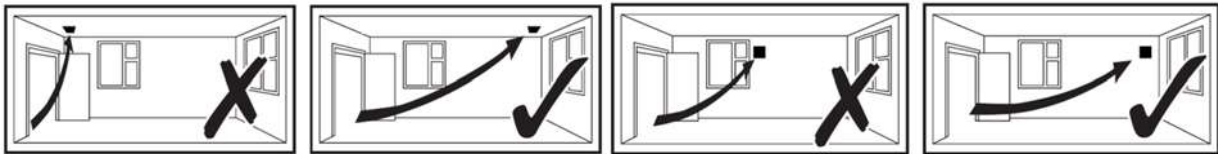

Fig.1: VASF100BF (Basic) & VASF100PIRF (PIR)
1. Select and follow the appropriate wiring diagram. (Fig. 1 or 2)
Fixed Speed Range – Fig1, 2, 3, 4, 5 & 6